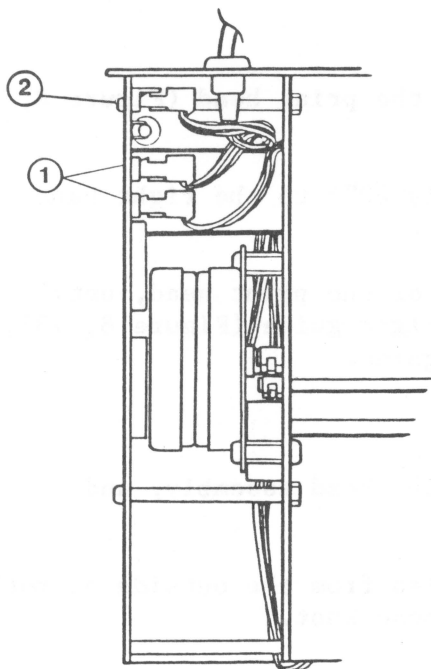

FIGURE 9
2. Locate the two motor plugs (Figure 9, #1). Put a piece of tape on the frontmost plug, to identify it.
11. Tip the chassis back down. Plug in the motor plugs (on each, the orange wire connects to the top pin) and the interface cable (Figure 9, #1 and 2). Remove the tape from the frontmost plug.